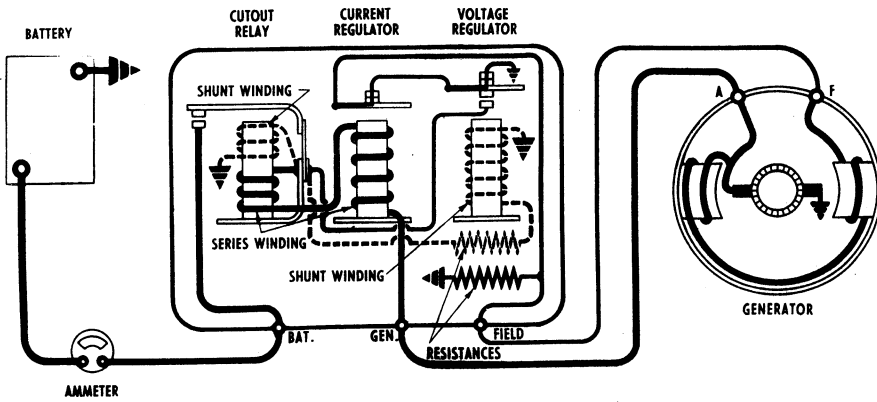

Fig. 50 Wiring diagram of Delco-Remy unit with dual contacts on voltage regulator
7. If the condition ever exists where the voltage setting of the upper contacts is higher than that of the lower contacts, turn the air gap adjusting screw in a clockwise direction. If adjustment is taken up, it is necessary to reset the nominal air gap by bending the contact supports. Fig. 50 shows a wiring diagram of this type regulator.